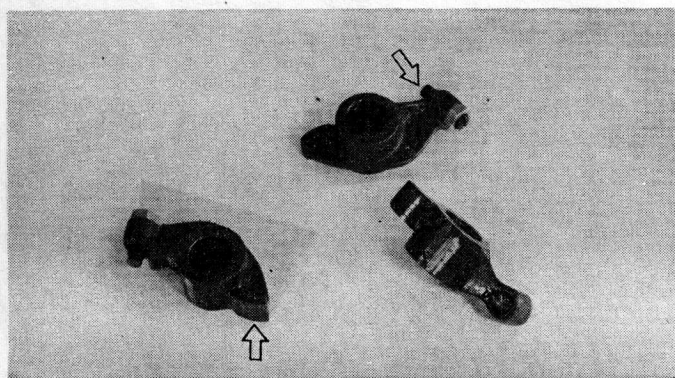

Fig. 57 Checking Rocker Arms
(1) Check the rocker arm face to make contact with the cam lobe and adjusting screw end to make contact with a valve. If they are severely worn or damaged, replace them. (Fig. 57)